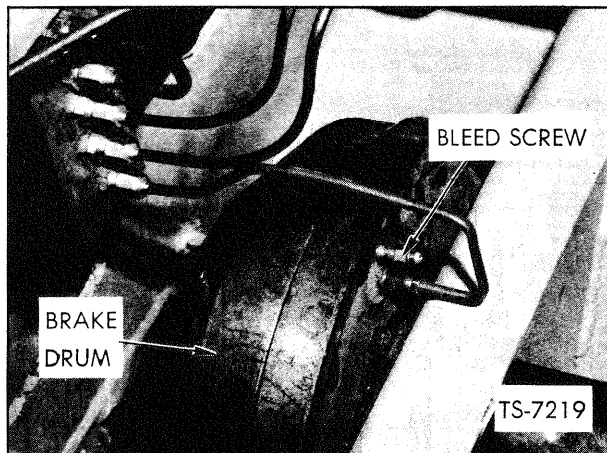

Fig. 17 Bleed the Brake
2. With the aid of a helper, open the bleed screw on the cylinder in Fig. 17 and depress the brake pedal to expel any air and fluid from the lines.